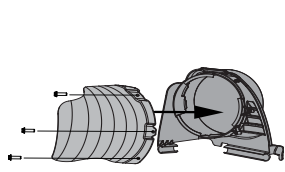

Figure 13
4. Attach the deflector (731-18471) to the upper chute support using the three (3) screws supplied in hardware pack 689-02299. See Figure 13.